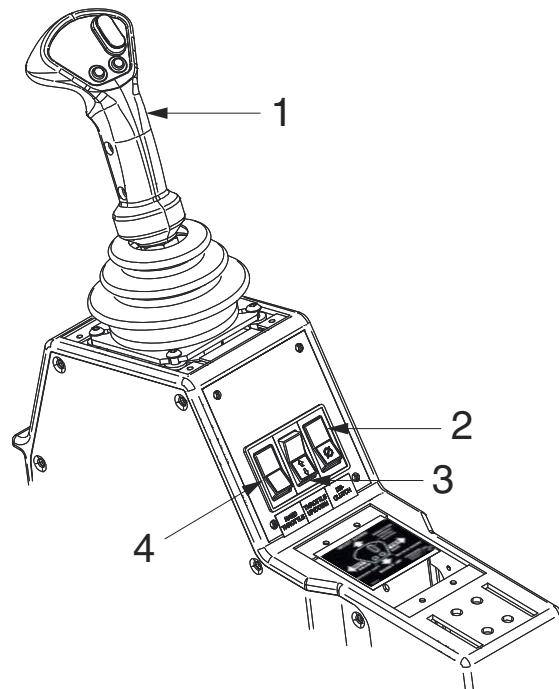

Figure 2-4-4 Right Hand Joystick Detail
Overrides foot throttle. To engage flip switch into the on position. Used with item 4 (see Figure 2-4-4).
Adjusts RPM's up or down when adjacent switch item 3 (see Figure 2-4-4) is engaged.